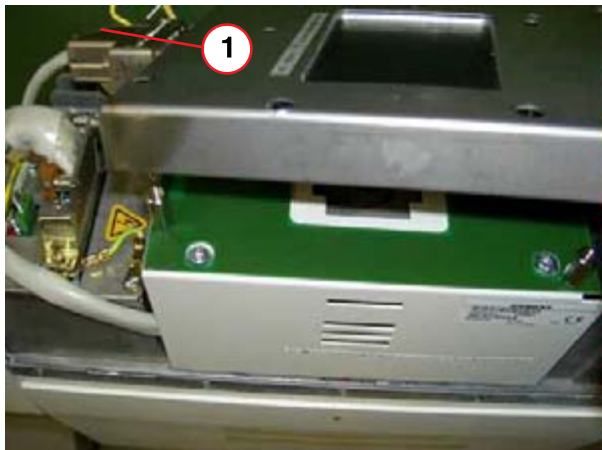

Fig. 1: Measurement chamber connector
- Pull the measurement chamber connector (1/Fig. 1 / p. 5) out of the cable tie.
- Place the dose measurement chamber on the SIREPHOS according to (1/Fig. 1 / p. 5). The "Focus" labeling has to point toward the X-ray tube.
- Connect the measurement chamber connector (1/Fig. 1 / p. 5) to the measurement chamber.